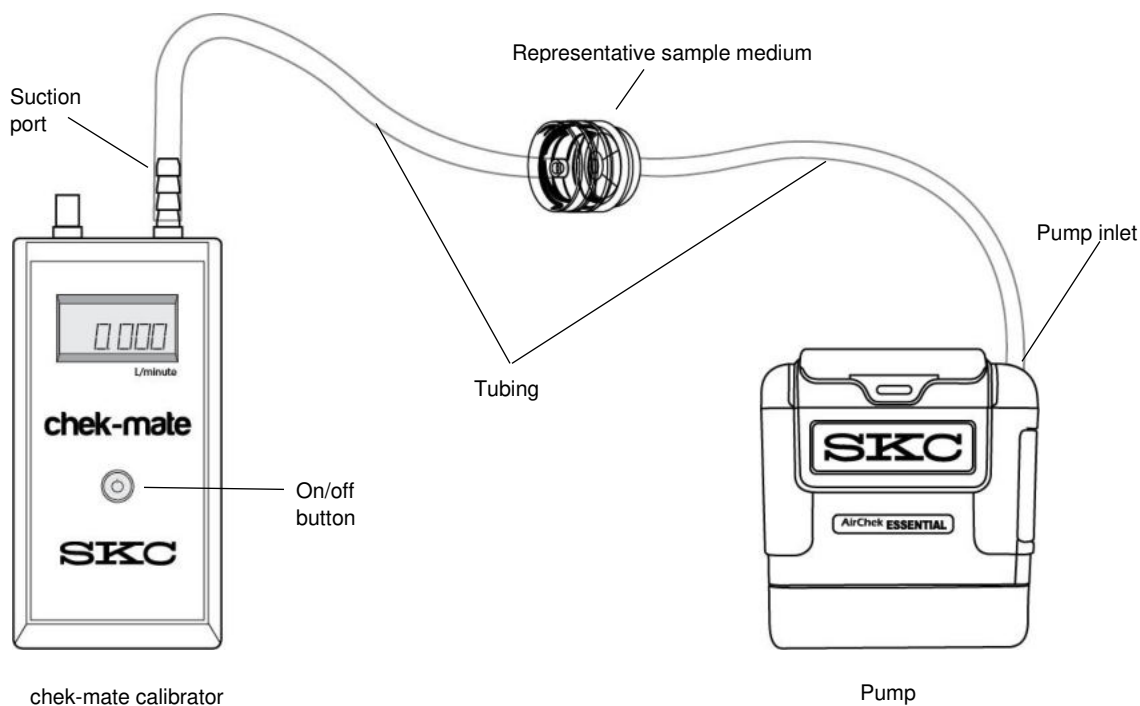

Figure 3. Calibration Train (1 to 5 L/min)
3. Set up a calibration train (Figure 3).